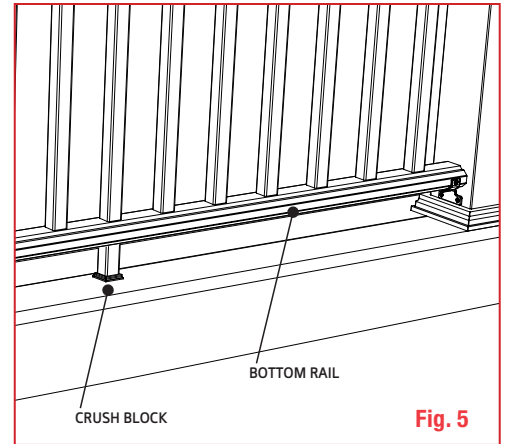

Fig. 5
- 5 To install the bottom rail brackets, place the bottom of the bracket on the top edge of the Marquee Post Ring and center it on the post. Secure in place using two of the screws provided in the Marquee Straight Bracket Kit. Use 2" screws when mounting to a wood post or the 1-1/4" screws when mounting to Marquee Post Mount. Repeat on post at opposite end of rail section. (Fig. 5)
**6** Attach the Crush Block included with the Marquee Railing® Kit on the underside of the bottom rail using the screw provided with the Crush Block. (Fig. 5) The Crush Block should be centered, both front, back, and left to right, on the underside of the bottom rail. There is not a designated or predrilled hole in the bottom rail.
- 6 Insert a Baluster into the first and last prerouted holes of the bottom rail, making sure each one is fully nested. Align the top rail over the Balusters, and install the Balusters into the prerouted holes **with the notched end of the rail at the upper end of the stair section**. The rail should extend past the post sleeves on each side. Use a level on the Balusters to ensure they are vertical. (Fig. 5) Mark both ends of the rail where they cross the post sleeve.